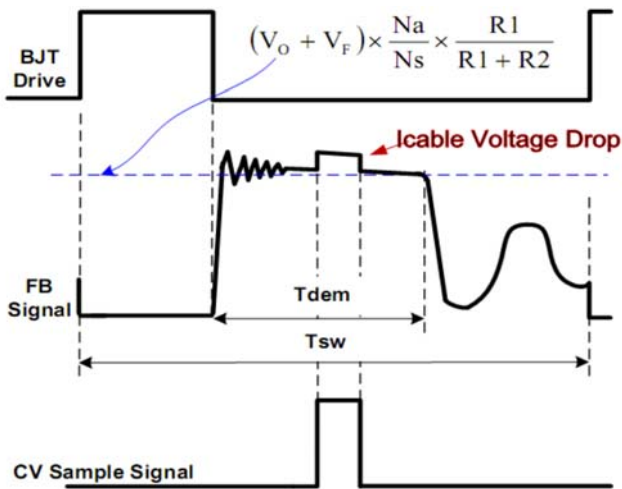

Fig.2
In primary side control, the output voltage is sensed on the auxiliary winding during the transfer of transformer energy to the secondary. Fig.2 illustrates the CV sampling signal timing waveform in U6118. As shown in Fig.2, it is clear that there is a down slope representing a decreasing total rectifier V_f and its voltage drop as the secondary current decreases to zero. To achieve an accurate representation of the secondary output voltage on the auxiliary winding, the CV sampling signal blocks the leakage inductance reset and ringing. When the CV sampling process is over, the internal sample/hold (S&H) circuit captures the error signal and amplifies it through the internal Error Amplifier (EA). The output of EA is sent to the Primary Side Constant Voltage Modulator (PSR-CVM) for CV control. The internal reference voltage for EA is trimmed to 2V with high accuracy.
During the CV sampling process, an internal variable current source is flowing to FB pin for Cable Drop Compensation (CDC). Thus, there is a step at FB pin in the transformer demagnetization process, as shown in Fig.2. Fig.2 also illustrates the equation for “demagnetization plateau”, where V_o and V_f is the output voltage and diode forward voltage; R1 and R2 is the resistor divider connected from the auxiliary winding to FB Pin, N_s and N_a are secondary winding and auxiliary winding respectively.